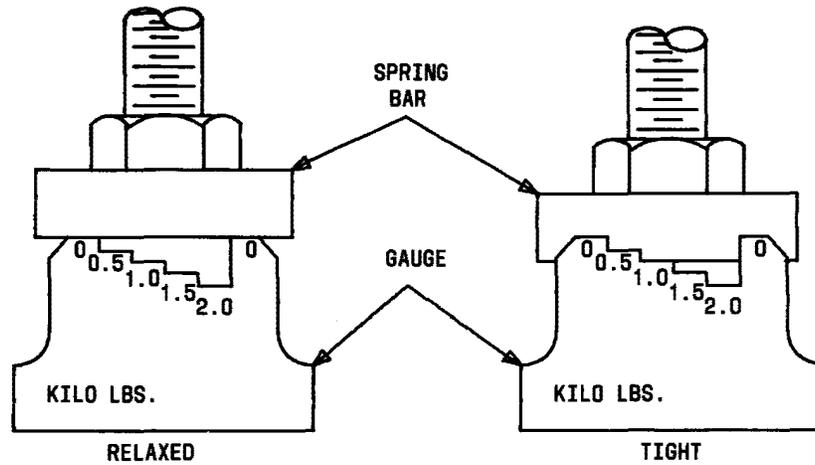

Fig. 2—Diode Replacement Gauge
Requirement: The top edge of the gauge marked 0 should align with the bottom edge of the spring bar. See Fig. 2.
- (18) Tighten the nuts uniformly to bend the spring bar and until the notch marked 1.0 (kilopounds) aligns with the bottom edge of the spring bar. See Fig. 2.